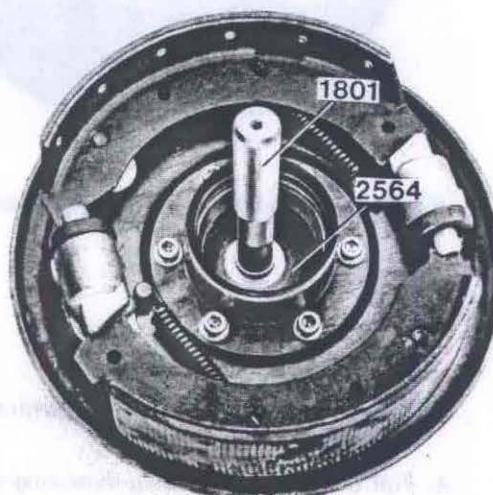
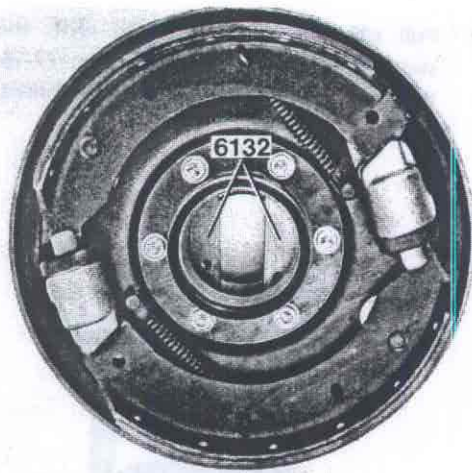

Fig. 77-7. Removing the inner bearing outer ring and inner sealing ring
Fig. 77-8. Location of thrust washers 6132
1. Press out the inner bearing outer ring and inner sealing ring with two 6132, drift 2564 and standard handle 1801, see Fig. 77-7. Place tool 6132 as shown in Fig. 77-8.
3. Press out the inner sealing ring and inner outer ring with two 6132, drift 2564 and standard handle 1801, see Fig. 77-7. Place 6132 as shown in Fig. 77-8.